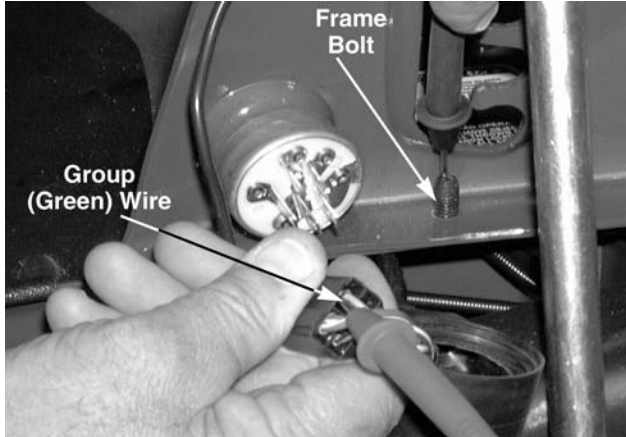

Figure 8-76.
–There will be **CONTINUITY**. See Figure 8-76.